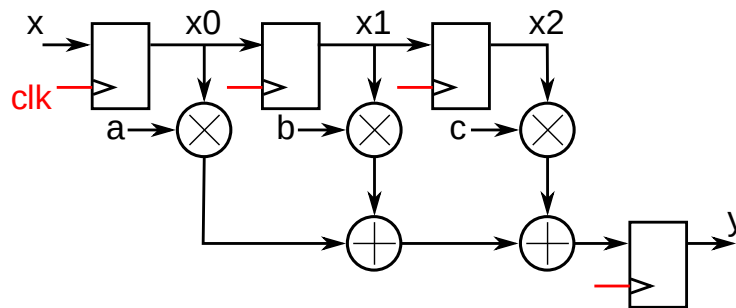

Figure 3: Block diagram of a FIR filter of memory two.
In this problem we are going to consider the so called pipelining technique applied to FIR digital filters (it doesn't matter if now you don't know what a FIR filter is). *Figure 3* shows the block diagram of a FIR filter (of memory two) in which the output y can be written as a combination of the current input x_0 and the two previous values of this input, x_1 and x_2 : $y = a*x_0 + b*x_1 + c*x_2$. It is worth noting that each *clock* period a new output is computed.
- a) Identify the critical path of *Figure 3*. Compute the maximum clock frequency f_{clk} at which the system can work. Consider the following delays: